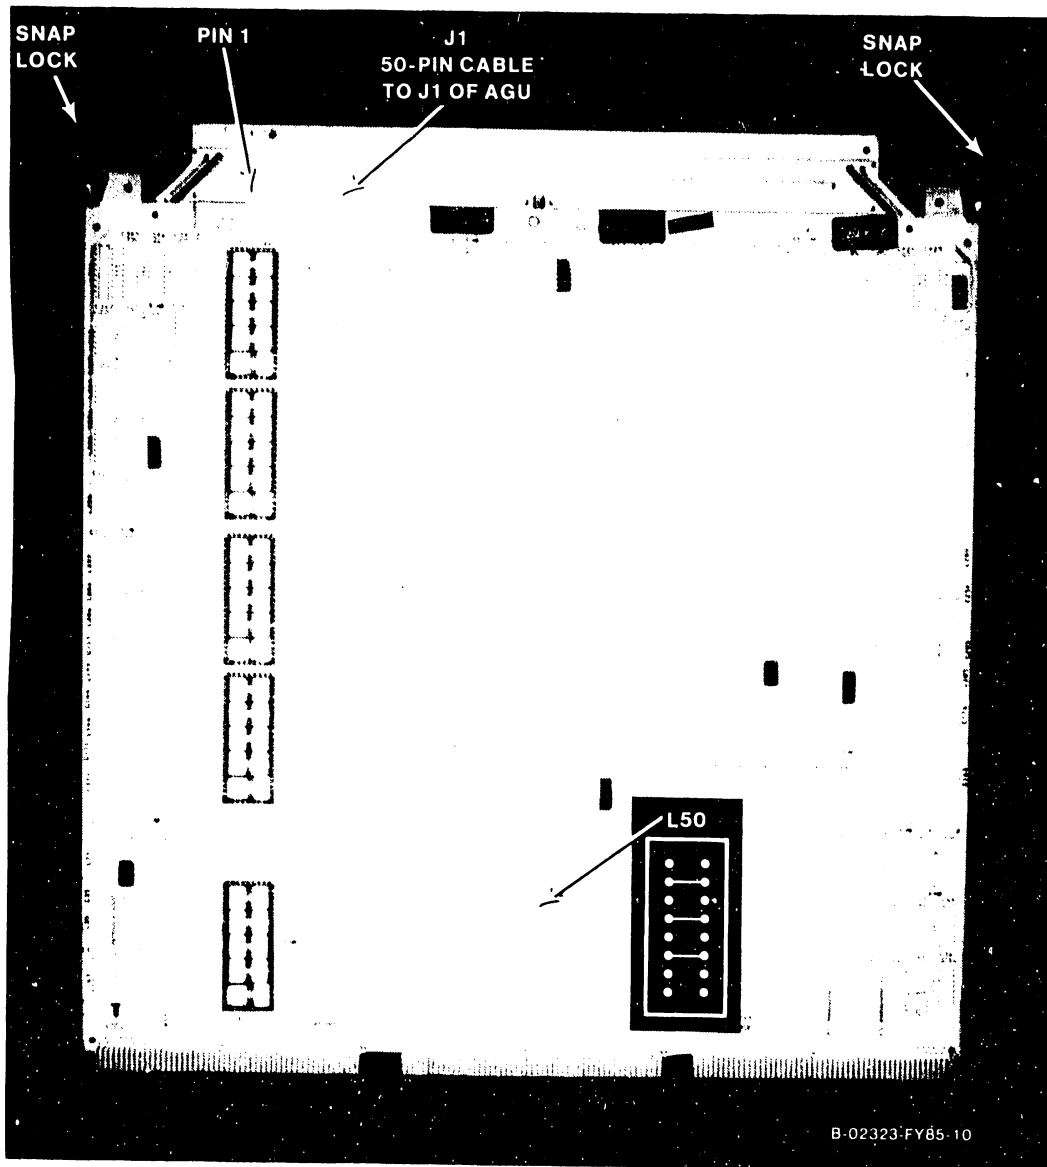

Figure 5-15. 210-8831 Central Processing Unit
1. Before removing the Central Processing Unit (CPU), figure 5-15, from backplane slot #2 disconnect the 50-pin cable from J1.